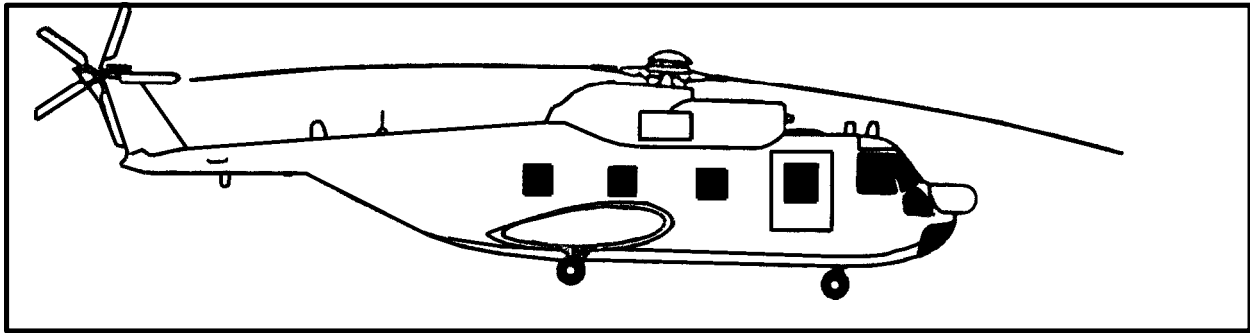

Figure 2-6. HH-3F Pelican
**c. H-3, SH-3G, and HH-3F.** The SH-3G Sea King, HH-3F Pelican (Figure 2-6), and H-3 Jolly Green Giant are twin engine, single main rotor helicopters manufactured by Sikorsky Aircraft. The H-3 helicopter models have two different cargo hook systems: the cable-suspended cargo sling system, rated at 6,000-pound capacity; and the low response cargo sling system, rated at 8,000-pound capacity.